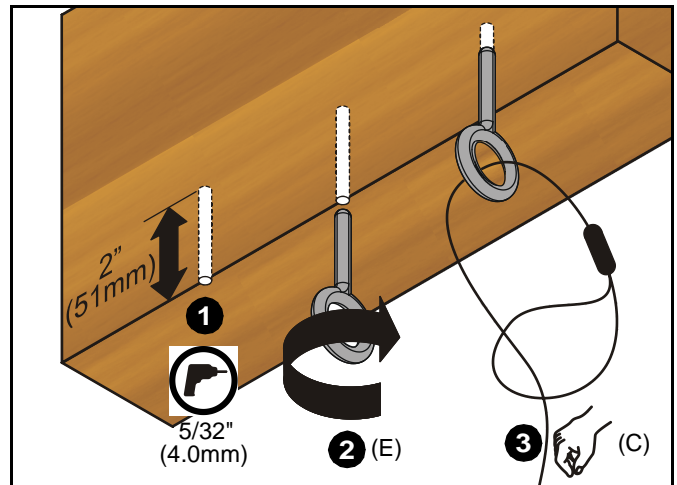

Figure 6
1. Drill 5/32" (4.0mm) diameter x 2" (51mm) deep hole at each marked cable anchor support location (See Figure 6). Remove debris from hole.
2. Fully thread eye lag (E) into each hole (See Figure 6).
3. Route end of cable (C) through eye lag (E) and then through cable loop (See Figure 6). Repeat for 3 remaining support locations.